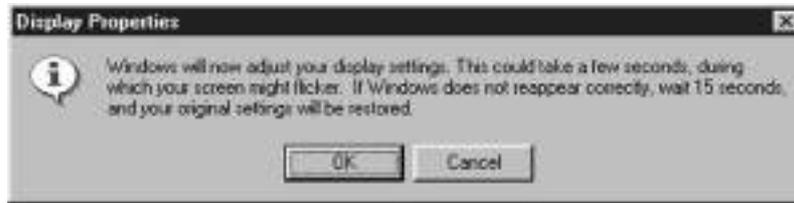

Fig. 75
① Slider
4. Click the **OK** button in the confirmation window to set the display area. To cancel, click the **Cancel** button. (See figs. 75–76.)